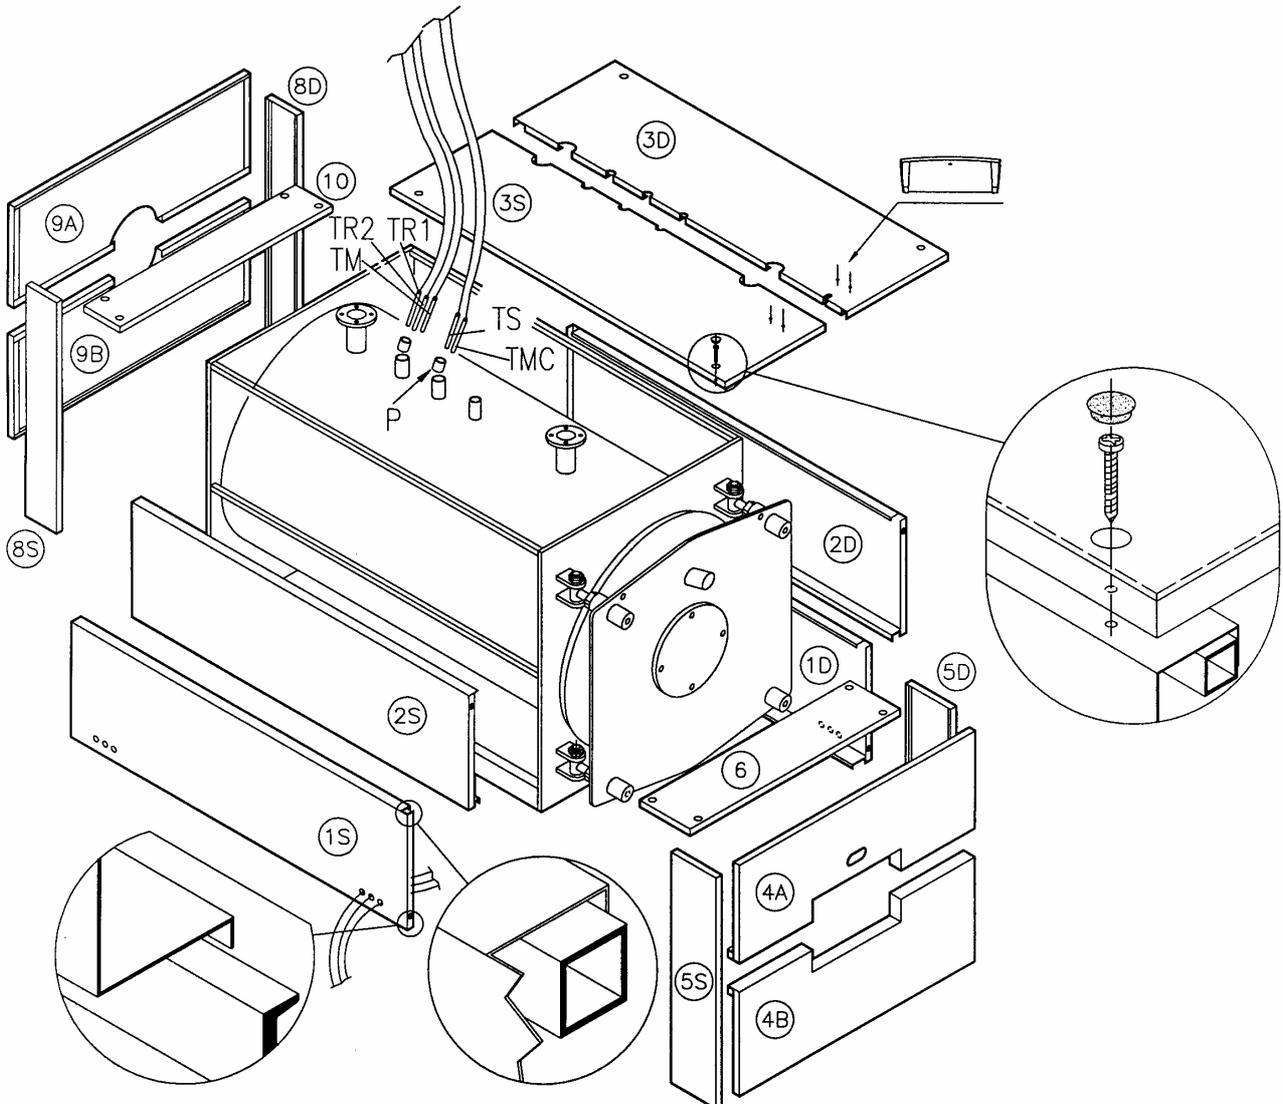

Fig. 9
4.3 REVESTIMIENTOS CALDERA REX/REX K 50÷130 (Fig. 9)